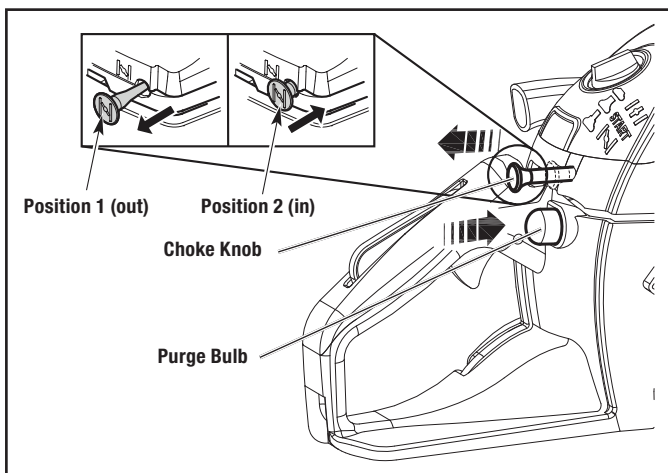

Figure 4
2. First time use, or after sitting unused for 3 or more months, slowly push the PURGE bulb all the way in and release 20 times (Fig. 4). For starting after recent use, push the PURGE bulb 10 times. If fuel cannot be seen in the purge bulb, push and release the purge bulb until fuel is visible, and then push 5 more times to purge air and vapor bubbles out of the carburetor.
3. Pull the choke knob out to position 1 "CHOKE" until it locks in place and you feel and hear the click. (Fig. 4).
5. DO NOT touch the throttle control. After the engine pops or putters, then push the choke knob in to position 2 "RUN". In position 2, the choke is open, and the throttle is cracked open to the starting position. (Fig. 4).